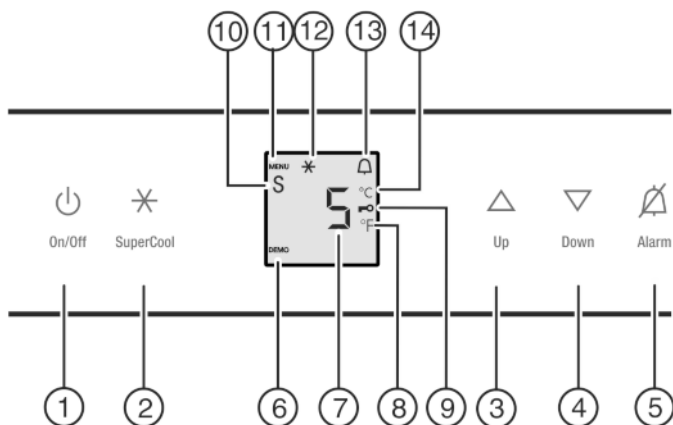

Fig. 2
- ▶ Press the On/Off button Fig. 2 (1).
- ▶ To activate setting mode: Press and hold the SuperCool button Fig. 2 (2) for approx. 5 s.
- ▷ The Menu symbol Fig. 2 (11) lights up.
- ▶ Using Up button Fig. 2 (3) / Down button Fig. 2 (4) select °.
- ▶ To confirm: Briefly press the SuperCool button Fig. 2 (2).
- ▶ Using Up button Fig. 2 (3) / Down button Fig. 2 (4) select °F or °C.
- ▶ To exit setting mode: Press On/Off button Fig. 2 (1).
- ▶ Select setting mode: Press and hold the SuperCool button Fig. 2 (2) for approx. 5 seconds.
- ▶ Using the Up Fig. 2 (3) or Down button Fig. 2 (4), select c.
- ▶ Press the SuperCool button Fig. 2 (2) briefly to confirm. When c1 is shown on the display:
- ▶ To switch on the child proof lock, press the SuperCool button Fig. 2 (2) briefly.
- ▷ The Child safety symbol Fig. 2 (9) lights up. c flashes on the display.
- ▶ To switch the child proof lock off, press the SuperCool button Fig. 2 (2) briefly.
- ▷ The Child safety symbol Fig. 2 (9) goes out. c flashes on the display.
▶ To deactivate setting mode: Press the On/Off button *Fig. 2 (1)*.
▶ To activate setting mode: Press and hold the SuperCool button *Fig. 2 (2)* for approx. 5 s.
▷ The Menu symbol *Fig. 2 (11)* lights up.
▶ To access the Sabbath mode function: Briefly press the SuperCool button *Fig. 2 (2)*.
▶ To turn on Sabbath mode, briefly press the SuperCool button *Fig. 2 (2)*.
▶ To turn off Sabbath mode, briefly press the SuperCool button *Fig. 2 (2)*.
▷ The Sabbath Mode symbol *Fig. 2 (10)* appears on the temperature display as long as Sabbath Mode is active.